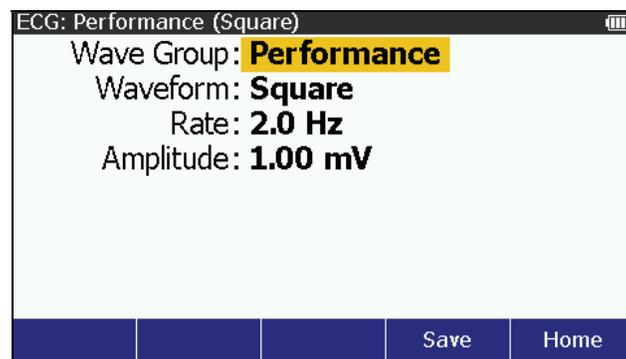

Figure 10. Performance Wave Screen
5. Push **ENTER** to show the **ECG: Performance** screen in Figure 10 in the display.